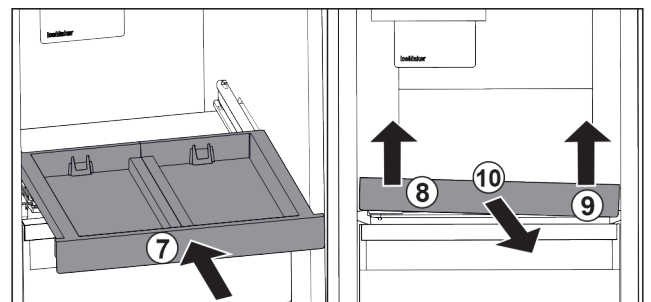

Fig. 193
- Slide in the pull-out board. *Fig. 193 (7)*
- Lift the pull-out board on the front left. *Fig. 193 (8)*
- Lift the pull-out board on the front right. *Fig. 193 (9)*
- Take out the pull-out board to the front. *Fig. 193 (10)*